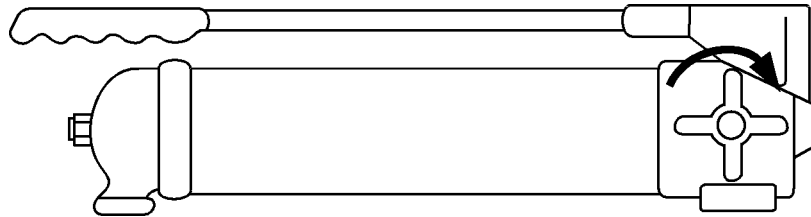

Figure 2
1. Close release valve by turning clockwise as shown in Figure 2.